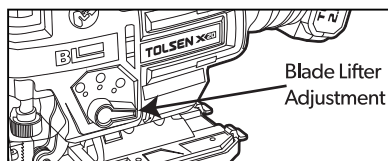

Figure 2
1. The jigsaw comes with four cutting modes (three cutting settings and 1 straight cutting mode). To change cutting mode, adjust the Blade Lifter Adjustment. See Figure 2, below.